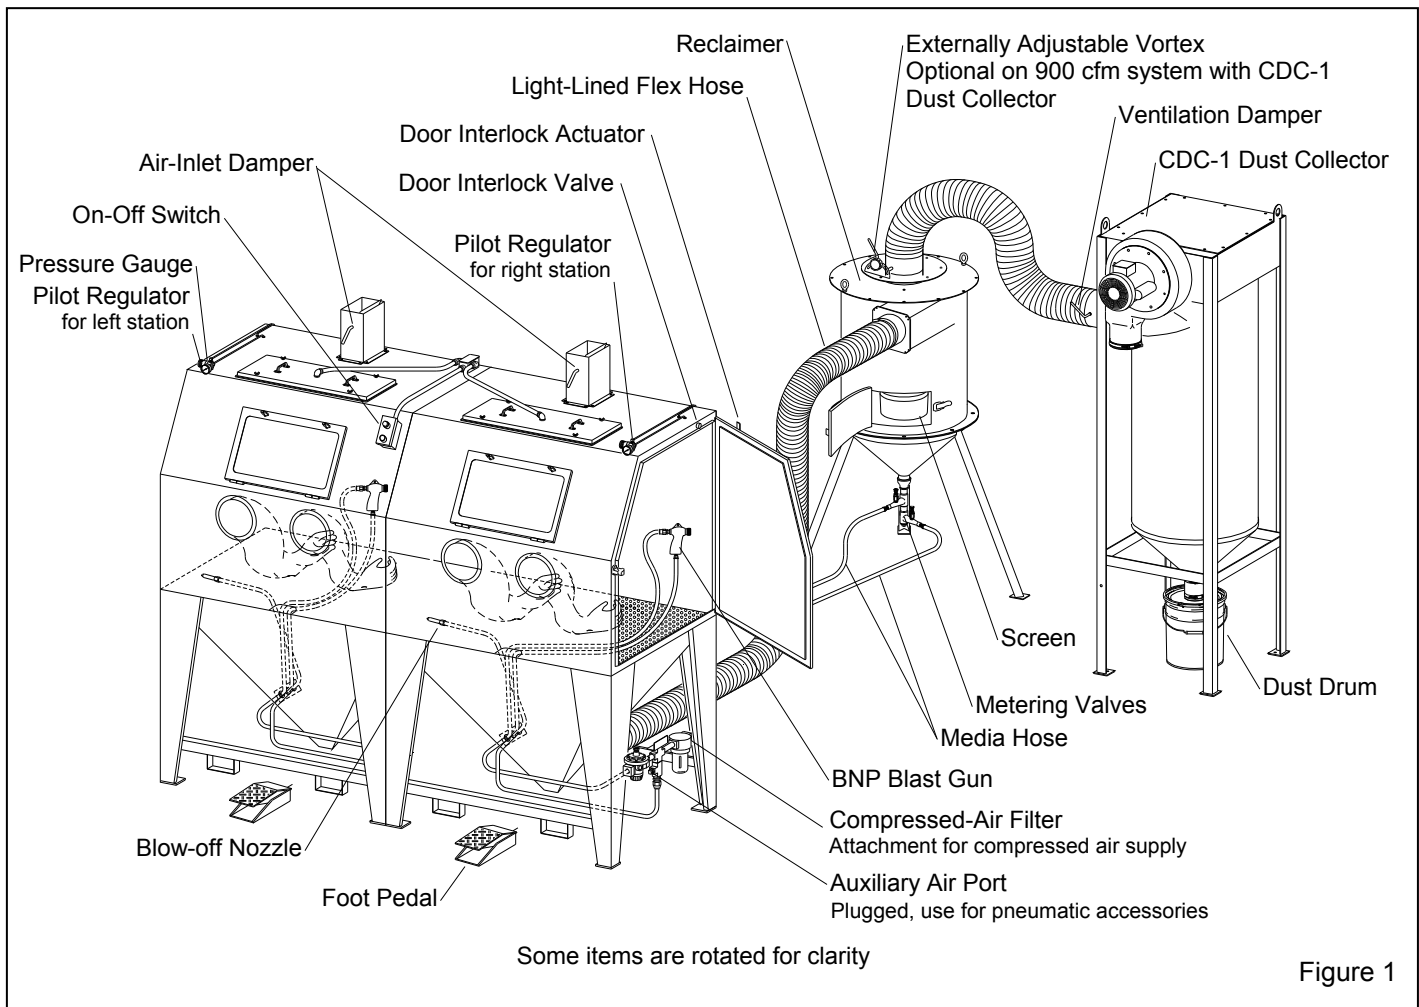
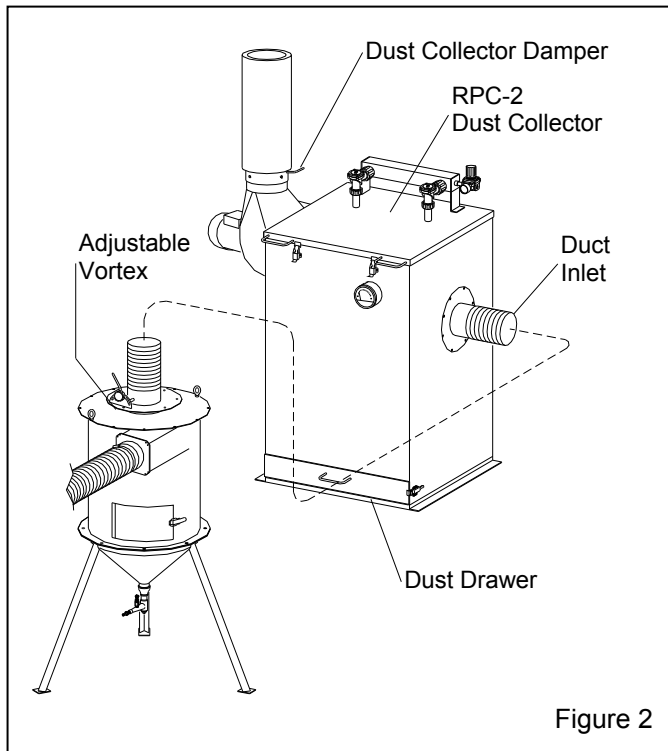

Figure 1
Figure 2
1.3.3 Refer to Figure 1 for arrangement of components using a CDC-1 dust collector. Figure 2 shows the arrangement with an RPC-2 (900 cfm) reverse-pulse dust collector with dust drawer.
**1.5.1 CDC-1 Dust Collectors:** Shown in Figure 1, the 900 cfm model collector is available for use with double BNP cabinets. The single filter cartridge is cleaned by using a manually-controlled pulse of compressed air. CDC-1 dust collector is standard with double BNP 900 cfm cabinets unless an optional RPC-2 or RPH dust collector is ordered at time of purchase. Refer to manual number 28225.
**1.5.2 RPC-2 Dust Collectors:** Shown in Figure 2, this collector is available in a 900 cfm models for use with double BNP cabinets. Dual filter cartridges are automatically cleaned by a timed, periodic pulse of compressed air. Dust collects in the drawer and must be frequently emptied. Refer to manual number 22788.
**1.5.3 RPH Dust Collectors:** The RPH-2 (900 cfm model) and RPH-3 (1200 cfm model). It is set up and operates the same as the RPC-2, as shown in Figure 2, but instead of a dust drawer, the collectors sits atop a hopper, which provides additional dust storage, and empties into a drum. Refer to manual number 21449.
**2.1.1** Refer to Figure 1 (and Figure 2 for optional RPC-2 dust collector) for the general arrangement. Place all components in a convenient location where compressed air and electrical service are available. The cabinet location must comply with OSHA and local safety codes. Allow for full access to all doors and service areas, and for efficient handling of large parts. Provide enough clearance at the dust collector for maintenance and to remove the dust container. Place the reclaimer directly behind the cabinet with flex hose connection and metering valve facing toward the cabinet to allow for as few bends as possible. Determine the best location for all components and position them before making compressed air connections, electrical connections, and attaching flex hose.